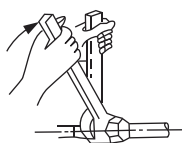

Fig.5-4
- Tighten it with a spanner and torque wrench (See Fig.5-4) .
- When connecting the refrigerant pipes, always use two wrenches/spanners to tighten or loosen the nuts! (See Fig.5-4) Otherwise, it will cause damage of piping connections and leakage .